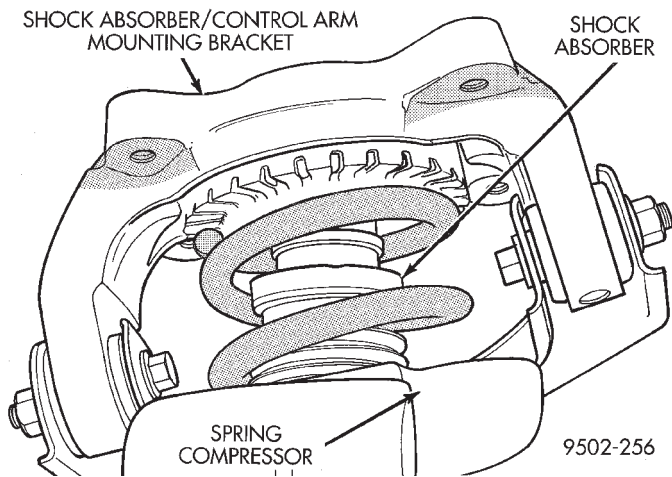

Fig. 21 Shock Absorber/Upper Control Arm Mounting Bracket
(15) Remove the shock absorber/upper control arm mounting bracket from the shock absorber assembly (Fig. 21).
(5) Install the shock absorber/upper control arm mounting bracket (Fig. 21) on the shock absorber assembly.